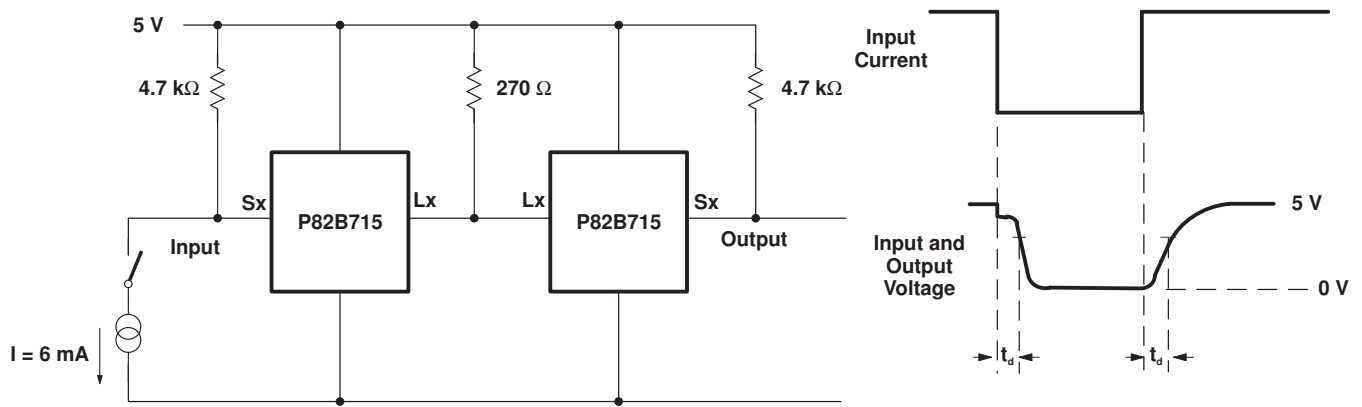

Figure 2. Test Circuit for Delay Times
| $t_{\text{rise/fall}}$ | Delay time to V_{L_x} voltage crossing $V_{CC}/2$ for input drive current step I_{S_x} at S_x ⁽¹⁾ (see Figure 2) | R_{L_x} pullup = 270 Ω | I_{S_x} I_{S_y} | V_{L_x} V_{L_y} | | 250 | | ns |
- (1) A conventional input-output delay is not observed in the S_x/L_x voltage waveforms, because the input and output pins are internally tied with a 30- Ω resistor so they show equal logic voltage levels to within 100 mV. When connected in an I²C system, an S_x/S_y input pin cannot rise/fall until the buffered bus load at the output pin has been driven by the internal amplifier. This test measures the bus propagation delay caused to falling or rising voltages at the L_x/L_y output (as well as the S_x/S_y input) by the amplifier's response time. The figure given is measured with a drive current as shown in Figure 2. Because this is a dynamic bus test in which a corresponding bus driving IC has an output voltage well above 0.4 V, 6 mA is used instead of the static 3 mA.
- (2) The signal path L_x to S_x and L_y to S_y is passive through the internal 30- Ω resistor. There is no amplifier involved and essentially no signal propagation delay.